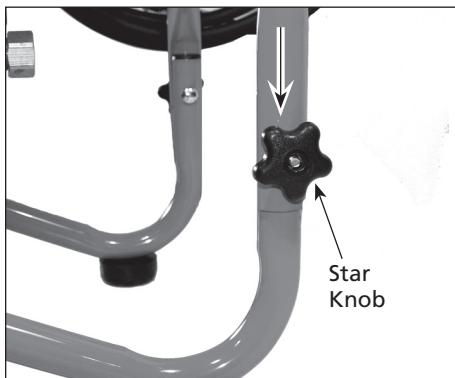

Figure 1 – Assemble Handle
1. Slide the handle assembly over the lower legs of the cart base. Use the star knob and bolt to secure the legs. See Figure 1.